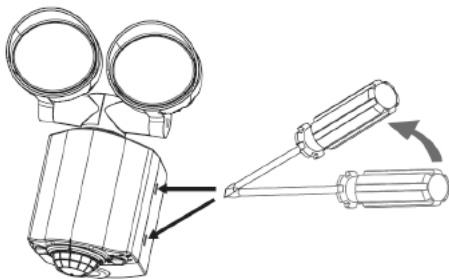

Fig. 1
- Remove the rear panel with the aid of a flat-head screwdriver (see Fig. 1)